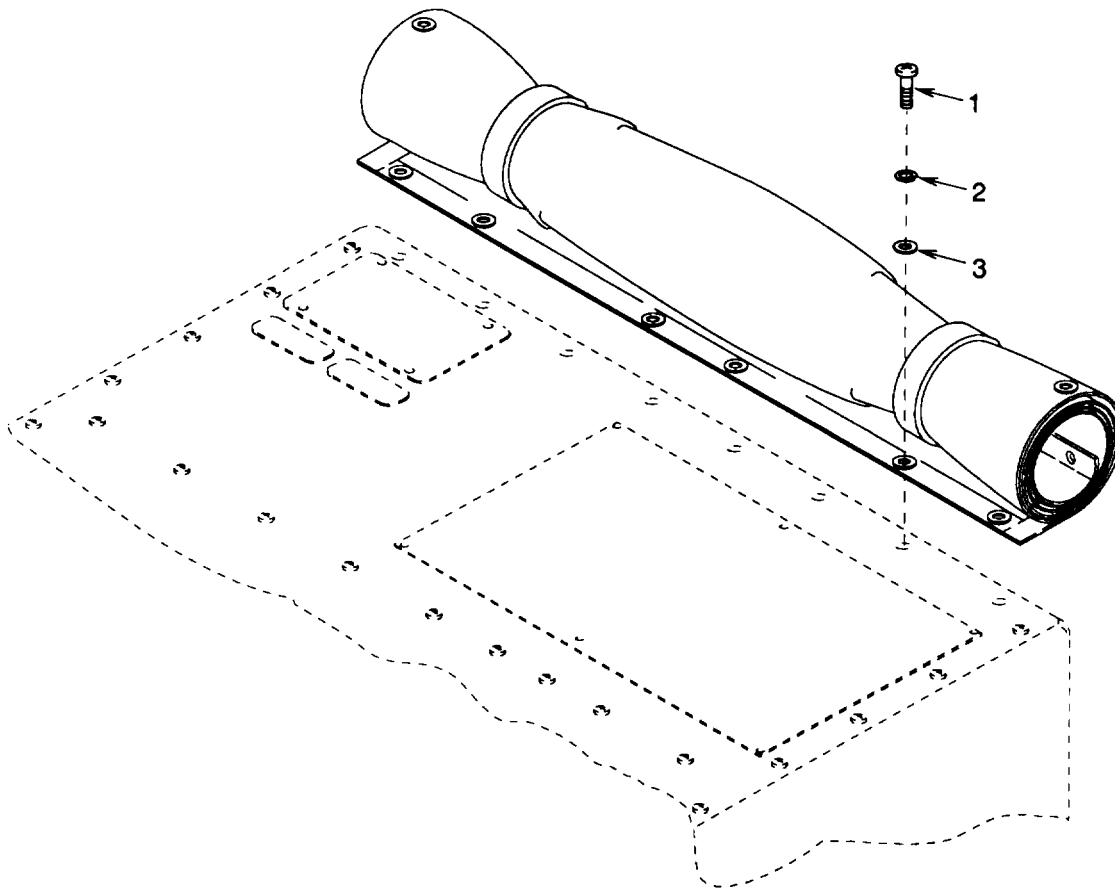

Figure 4-4. Fabric Cover
- (a) Using screwdriver, remove six screws (1), lock washers (2), and flat washers (3). (See figure 4-4.)
- (c) Reinstall six screws (1), lock washers (2), and flat washers (3).
(4) No other preparation is necessary if the air conditioner is to be installed by the typical exterior wall opening method and operated as a self-contained unit.